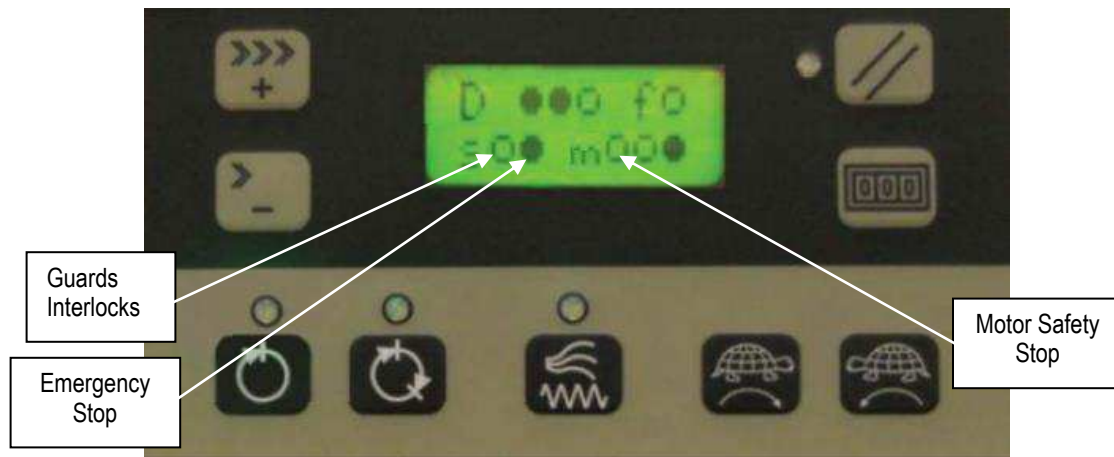

Figure 18
4. On the control panel display, verify that the input identifier is ON  (see Figure 18).
5. Open the Front Guard. Verify that the input identifier "Guard Interlocks" is OFF  (see Figure 18).
7. On the control panel display, verify that the input identifier "Guard Interlocks" is ON  (reference Figure 18).
11. Verify that the input identifier "Emergency Stop" is ON  and the input identifier "Motor Safety Stop" is OFF  (see Figure 18).